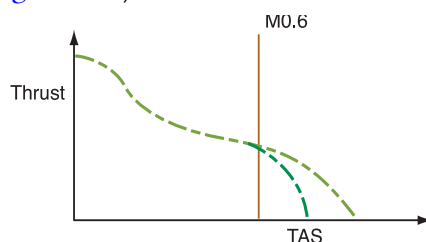

Figure 1-7 Loss of propeller thrust at high Mach number.
- 1.12 At high TAS, the effects of compressibility become significant and limit the maximum airspeeds at which a propeller can produce thrust. As a propeller has both rotational and forward velocity, the propeller tips will reach the speed of sound when the flight velocity reaches about 0.7 times the speed of sound ($M0.7$). As low-speed propellers have blades of considerable thickness and chord, shockwave effects and associated propeller drag and thrust penalties will occur from flight velocities around $M0.6$. A conventional propeller capable of producing thrust when operated near these speeds will experience a marked reduction in thrust (Figure 1-7).